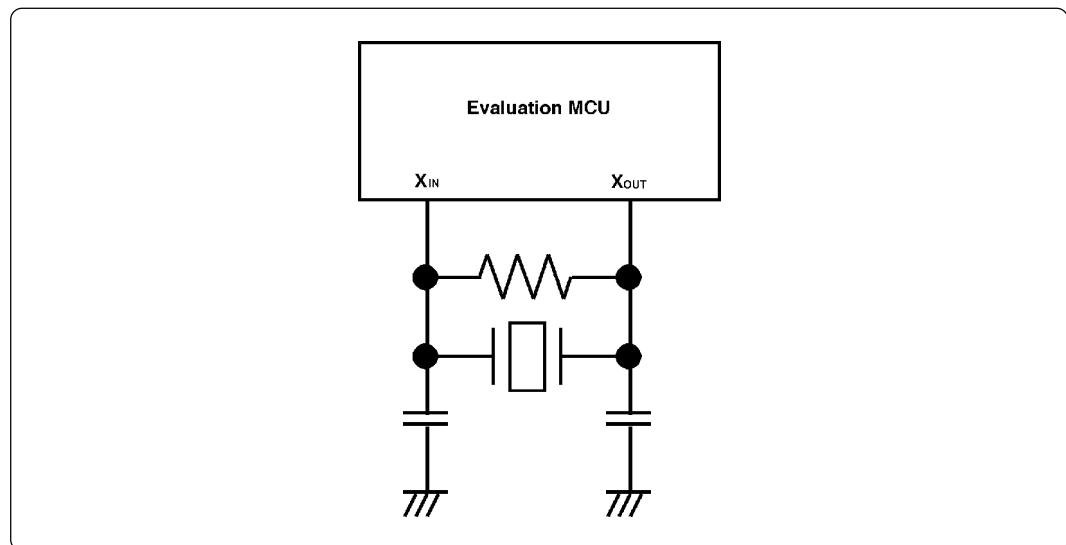

Figure 4.6 Circuit for no oscillation in this pod
- b. Make note of the fact that in the oscillation circuit shown in Figure 4.6 where a resonator is connected between the Xin (Xcin) and Xout (Xcout) pins, oscillation does not occur because a flexible cable, buffer IC and other devices are used between the evaluation MCU and the target system.